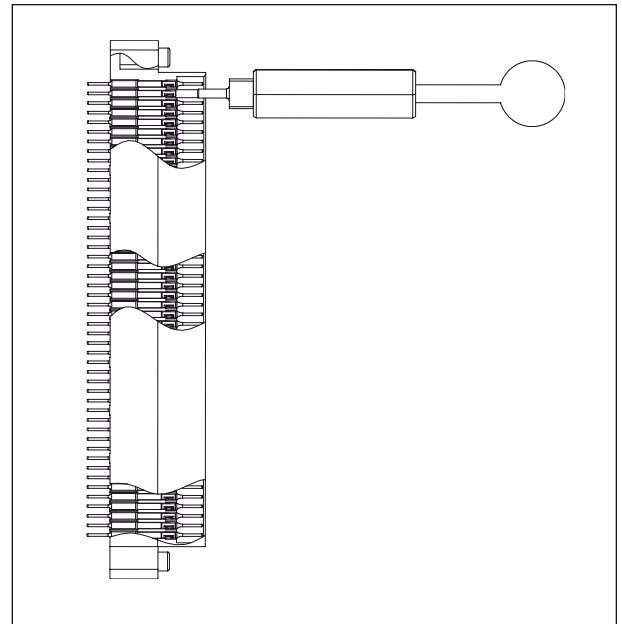

Figure 6-A.
2. To remove the ITA contacts place the ITA Extraction tool over the contact to be removed into the counter bore on the mating side of the module, **Figure 6-A**. Once seated, rotate the extraction tool slightly to ensure proper seating while pressing into the counter bore until the retaining ring is released.